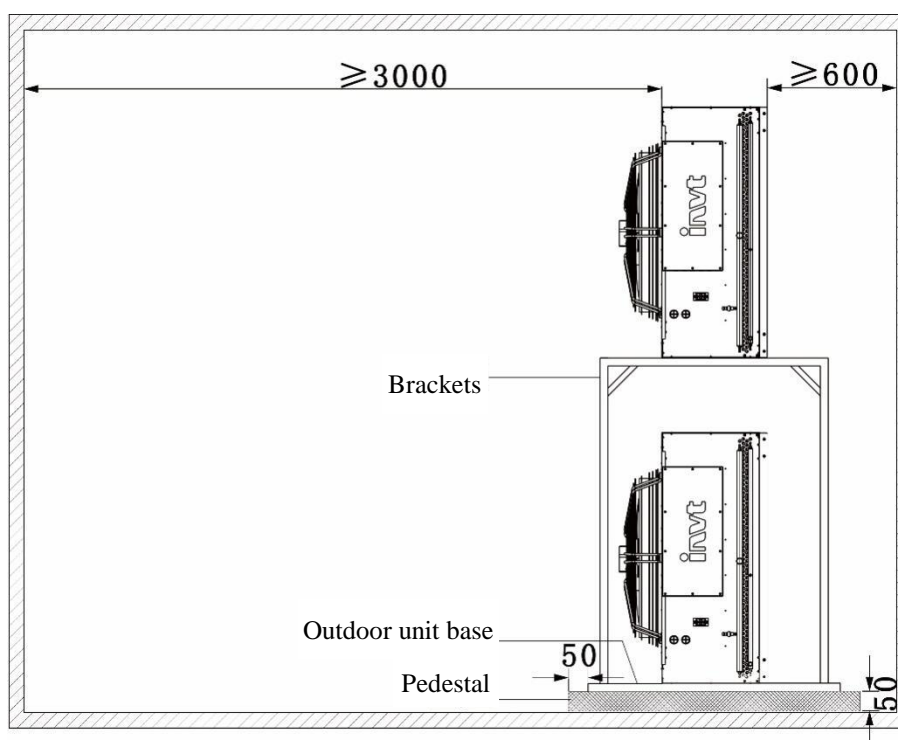

Figure 2-6 Two outdoor units stacked schematic (unit: mm)
- 3) When an outdoor unit is placed on top of another outdoor unit, the above outdoor unit must be installed on the bracket and a cushion must be added between the unit and the bracket to play the role of vibration isolation. The correct operation is shown in Figure 2-6.